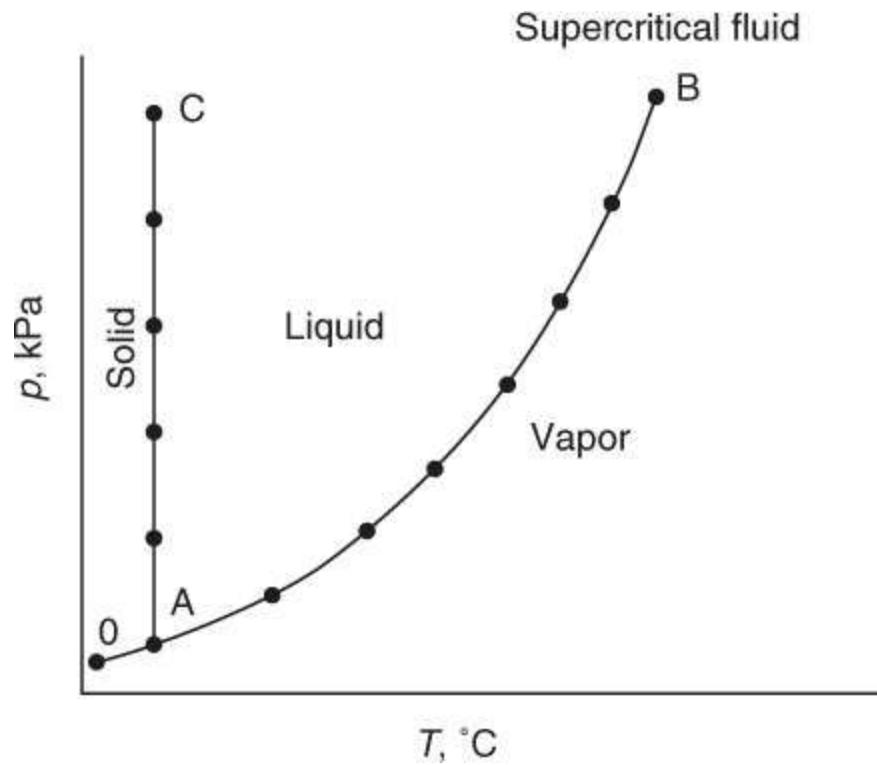
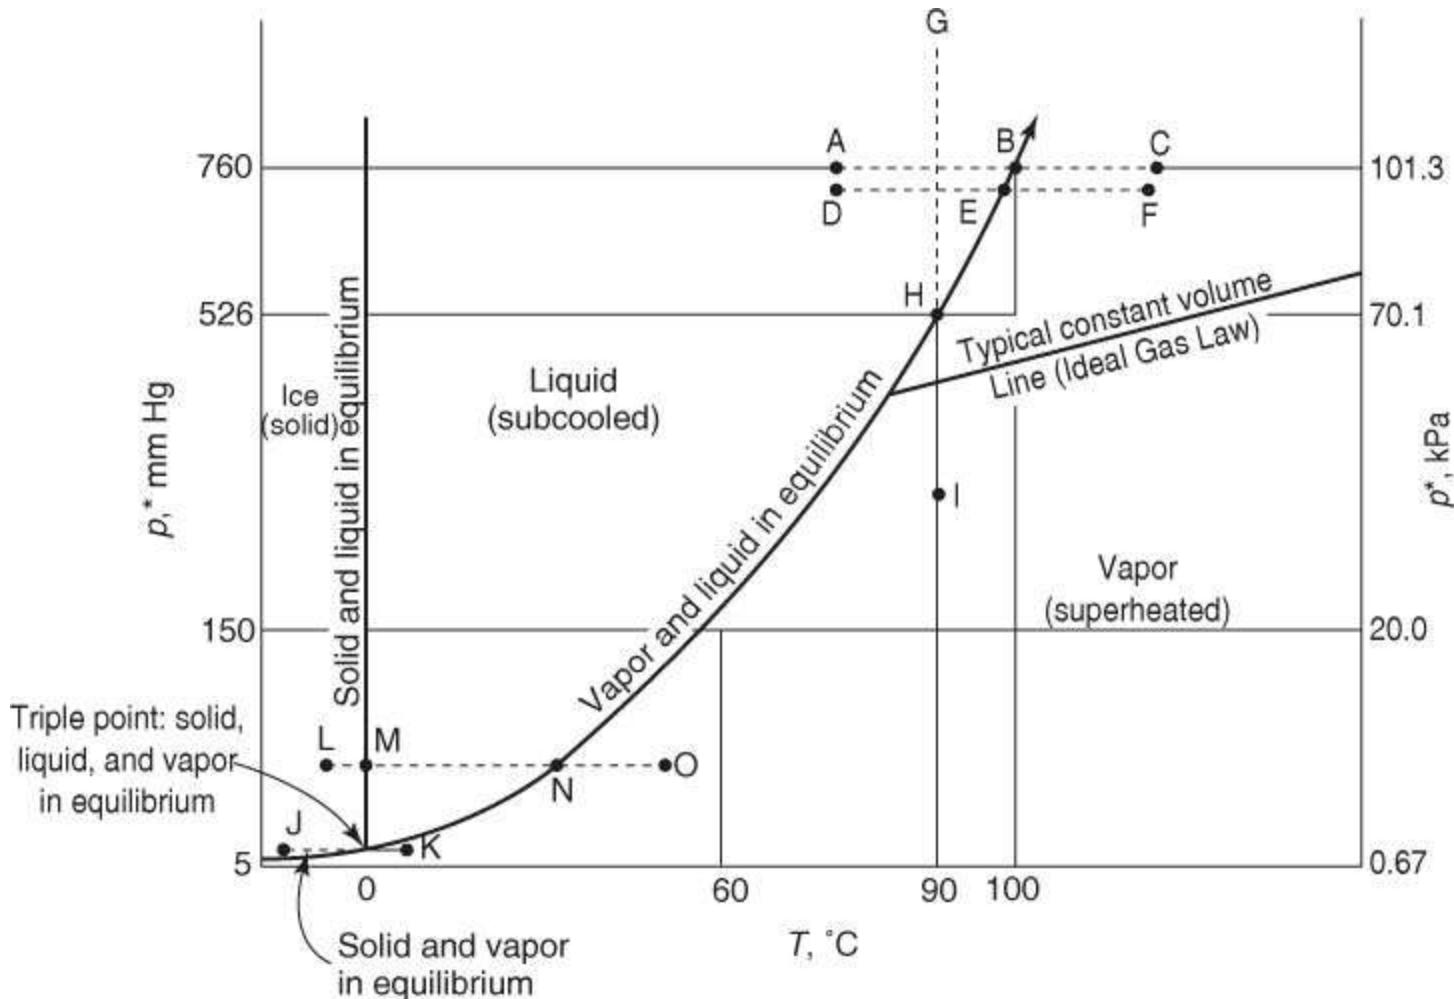

Figure 8.2. Results of the experiment of heating at constant volume shown on a phase diagram (p versus T at constant \hat{V})
Figure 8.3. Various common processes as represented on a p^* - T diagram
the measured pressures as a function of temperature, you will get Figure 8.2—a phase diagram—in which all of the measurements made have been fitted by a continuous smooth curve for clarity.
The initial conditions of p and T in the chamber are at 0 in Figure 8.2 with the solid in equilibrium with the vapor.
We next take up some terminology associated with processes that are conveniently represented on a p^*-T phase chart such as Figure 8.3 (in the definitions of terms that follow, the letters in parentheses refer to the corresponding process denoted in Figure 8.3 by the same sequence of letters):
- **Supercritical region:** p - T values above the critical point (not shown in Figure 8.3).
In Figure 8.3 the process of evaporation and condensation of water at 1 atm is represented by the line ABC with the phase transformation occurring at 100°C. Suppose that you went to the top of Pikes Peak and repeated the process of evaporation and condensation in the open air. What would happen then? The process would be the same (points DEF) with the exception of the temperature and pressure at which the water would begin to boil, or condense. Since the pressure of the atmosphere at the top of Pikes Peak is lower than 101.3 kPa, the water would start to boil at a lower temperature. Some unfortunate consequences might result if you expected to kill certain types of disease-causing bacteria by boiling the water! In addition, it will take longer to cook rice at that elevation due to the lower boiling point for water at higher elevations.
A pure compound can change phase at constant volume from a liquid to a vapor, or the reverse, via a constant temperature process as well as a constant pressure process. A process of **vaporization**, or **condensation, at constant temperature** is illustrated by the lines GHI or IHG, respectively, in Figure 8.3. Water would vaporize or condense at constant temperature as the pressure reached point H on the vapor-pressure curve. The change that occurs at H is the increase or decrease in the fraction of vapor, or liquid, respectively, at the fixed temperature. The pressure does not change until all of the vapor, or liquid, has completed the phase transition.
the measurements made when saturation of liquid and vapor coexist and are deemed to form the envelope for the **two-phase** region that from a different angle appears in Figures 8.2 and 8.3 as the vapor-pressure curve. The two-phase region (e.g., A to B or D to C) represents the conditions under which liquid and vapor can exist at equilibrium. Note from Figure 8.4 the discontinuous change in the specific volume in going from a liquid to a solid at the triple point. In other words, water expands when it freezes, and this is why ships trapped in the polar ice can be crushed by the force of the expanding ice. By comparing Figures 8.3 and 8.4, you can see that lines AB and CD in the p - \hat{V} phase diagram (Figure 8.4) correspond to a single point in the p - T diagram (Figure 8.3).
That is, by examining the location of \hat{V} in relation to $\hat{V}_{\text{vapor}}^{\text{sat.}}$ and $\hat{V}_{\text{liquid}}^{\text{sat.}}$ you can determine the quality. Figures 8.3 and 8.4 can be reconciled by looking at the three-dimensional surface that illustrates the p - \hat{V} - T (see Figure 8.6).
You can see that vapor pressure is the two-dimensional projection, yielding a curve, of a three-dimensional surface into the p - T plane. Note that the vapor-pressure curve in a p - T plane is actually a surface in the three-dimensional representation because a vapor and liquid at equilibrium are at the same temperature (see Figure 8.6). Figure 8.3 thus proves to be a portion of the complete region shown in Figure 8.6.
You can understand the behavior of single-component two-phase systems by examining the phase diagram of the component of interest. For example, consider the p^* -versus- T diagram (at constant ∇) for water shown in Figure 8.3. The relationship between temperature and pressure for steam and liquid water phases in equilibrium is represented by the line from the triple point up to point B. In the remainder of this section we will explain how to determine values for the vapor pressure given the temperature, or the temperature given the vapor pressure.